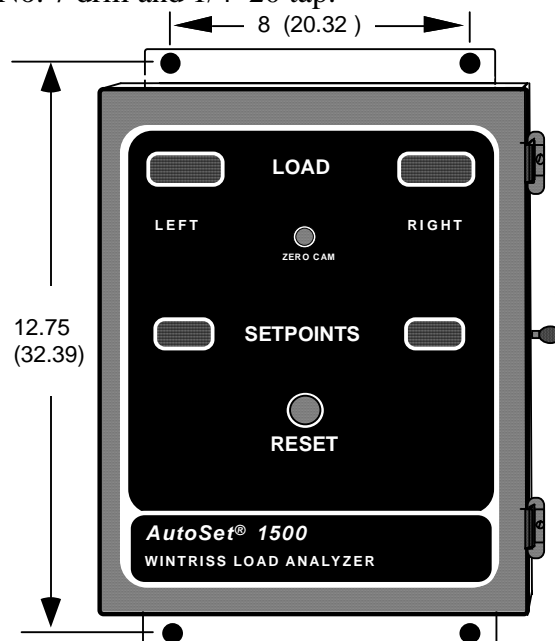

Figure 2-1. AutoSet mounting dimensions
2. Drill holes for mounting (see dimensions in Figure 2-1). Shockmount studs are 1/4–20. Tap holes (if necessary) and mount the box using the enclosed shock mounts. Use a No. 7 drill and 1/4–20 tap.